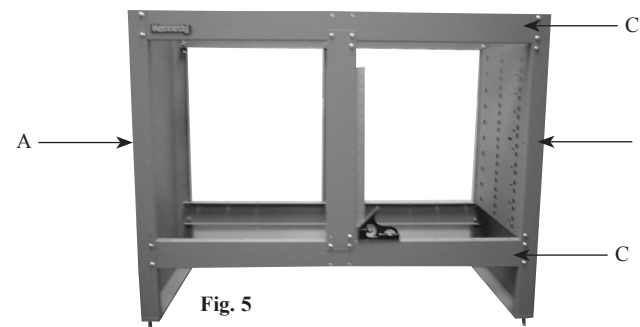

Fig. 5
Insert Rails (C) into top and bottom notches of each End Panel (A) as shown in Fig. 5. Attach with (16) Fasteners (H). Tighten nuts finger tight until assembly is checked for square alignment. Tighten with wrench.